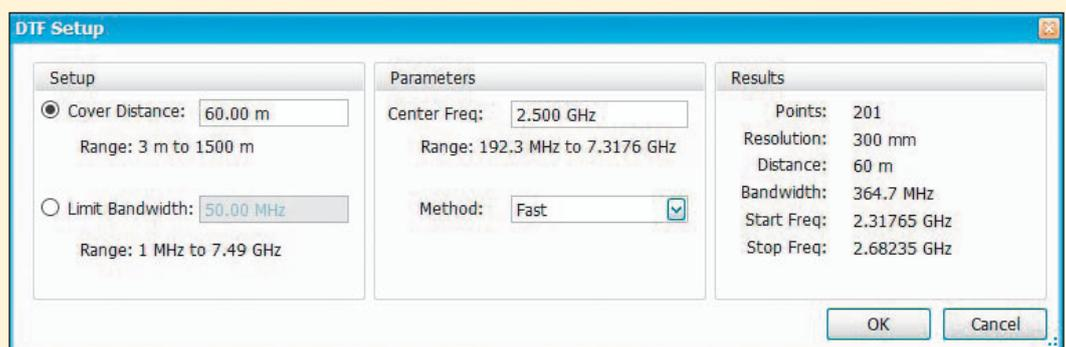

Figure 7: Setting Cover Distance
9. Set the Cover Distance as shown in Figure 7. Specify the length of the cable or the distance to the DUT (for example, an antenna). This setup is recommended when there are no frequency limitations on the signal path between the analyzer and the system under test, such as when an antenna and cable are being tested. However, you can reduce the cover distance to just include the fault (for example, if your cable is 100 m long, but there is one fault at 30 m, you can reduce the distance to 35 m). Using a smaller cover distance results in increased trace resolution for a given number of points.